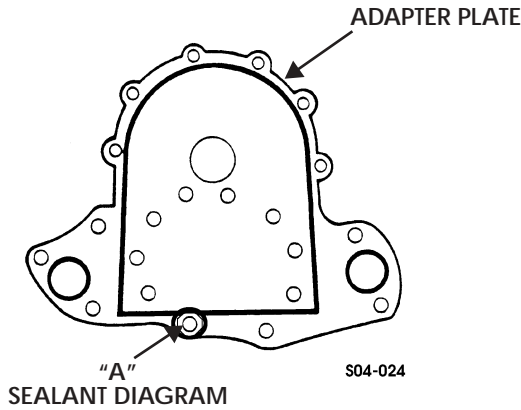

Figure 4-25: Adapter Plate
2. Apply flange sealant to adapter plate sealing surfaces (Figure 4-25).
3. Apply pipe sealing compound to capscrew to be installed in hole "A" (Figure 4-25).